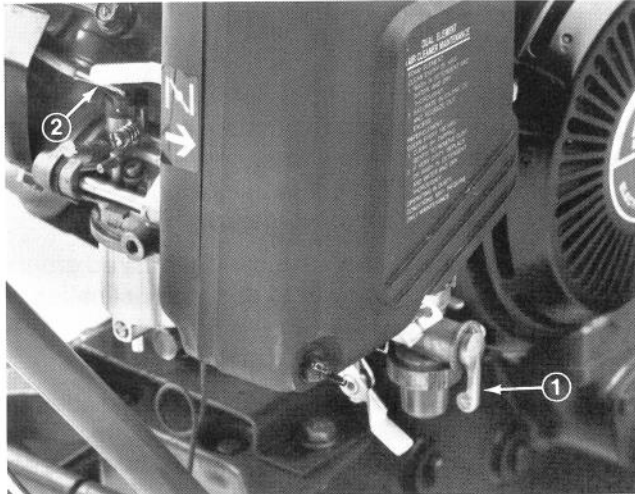

Figure 18
Choke Lever (Fig. 18) — Located on rear of engine. Lever has two positions: RUN and CHOKE. Move lever to CHOKE position when starting a cold engine. After engine starts move lever to RUN position.
Fuel Shut-off Valve (Fig. 18) — Located on left side of engine. Valve has two positions: CLOSED and OPEN. Move lever to closed position when storing or transpo- before starting engine.
2. Open fuel valve on front of engine (Fig. 18).
4. Move choke lever (Fig. 18) to CHOKE position before starting a cold engine, only if necessary.
8. Close fuel valve before storing machine (Fig. 18).